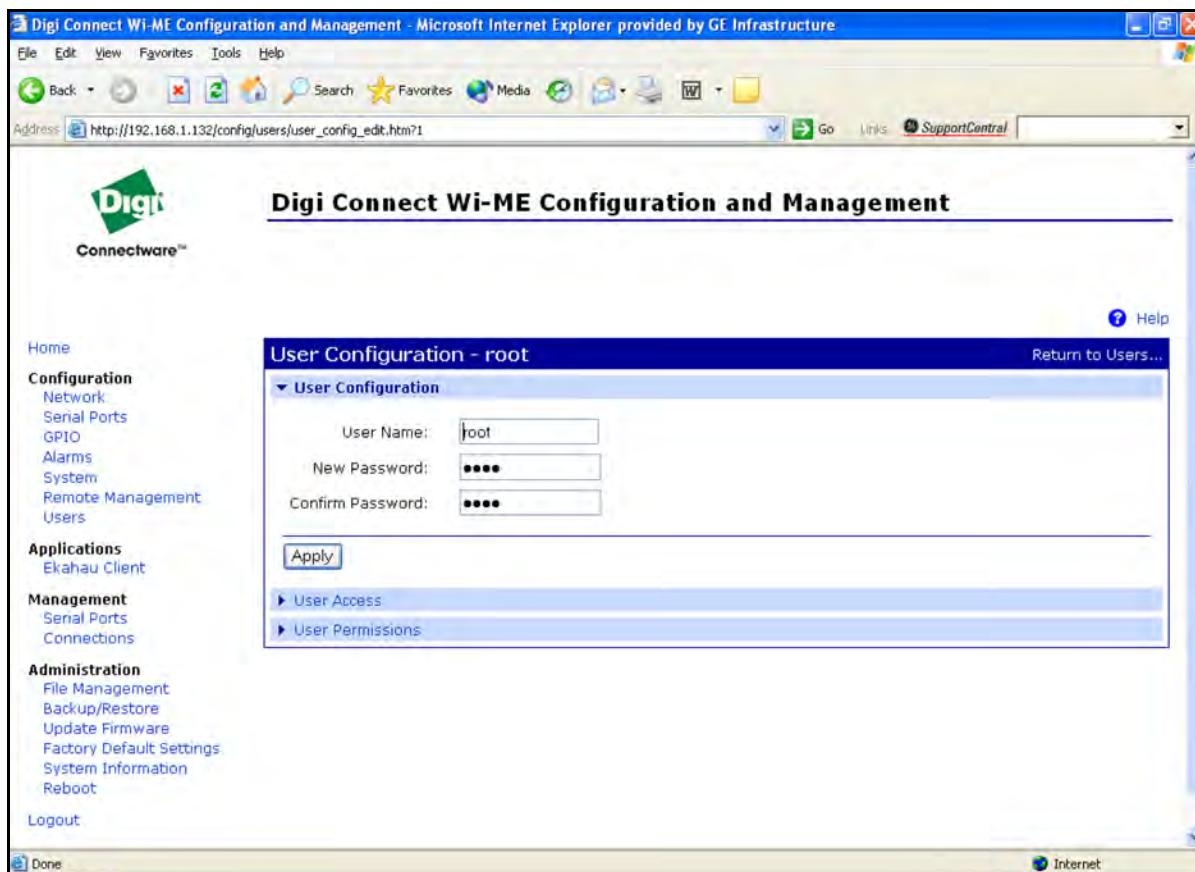

Figure 45: Changing the User Name and/or Password
5. Click on **New...**. Figure 45 on page 63 appears.